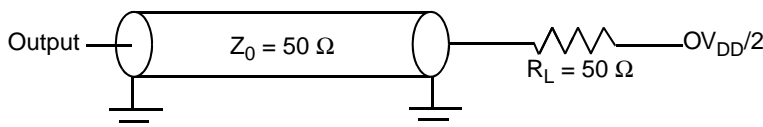

Figure 22. Local Bus C Test Load
- All outputs are measured from the midpoint voltage of the falling/rising edge of t_{TCLK} to the midpoint of the signal in question. The output timings are measured at the pins. All output timings assume a purely resistive 50- Ω load (see Figure 22). Time-of-flight delays must be added for trace lengths, vias, and connectors in the system.
- The symbols used for timing specifications herein follow the pattern of $t_{\text{(first two letters of functional block)(signal)(state)(reference)(state)}}$ for inputs and $t_{\text{(first two letters of functional block)(reference)(state)(signal)(state)}}$ for outputs. For example, t_{JTDVKH} symbolizes JTAG device timing (JT) with respect to the time data input signals (D) reaching the valid state (V) relative to the t_{JTG} clock reference (K) going to the high (H) state or setup time. Also, t_{JTDXKH} symbolizes JTAG timing (JT) with respect to the time data input signals (D) went invalid (X) relative to the t_{JTG} clock reference (K) going to the high (H) state. Note that, in general, the clock reference symbol representation is based on three letters representing the clock of a particular functional. For rise and fall times, the latter convention is used with the appropriate letter: R (rise) or F (fall).